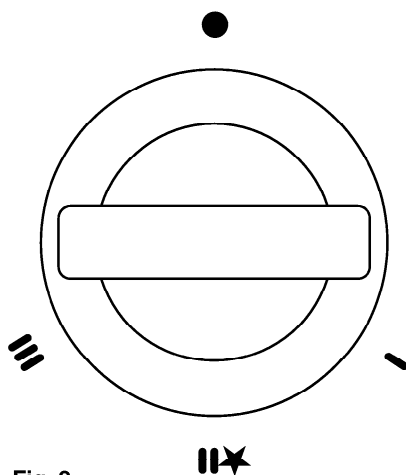

Fig. 2
2. **To light the appliance** (Fig 2): At the OFF (●) position push in the control knob as far as possible and still pushing in turn anti-clockwise to the ignition position (★) to light the burner. Keep the knob pushed in for 20 seconds and the burner should remain alight. If not, repeat the sequence.